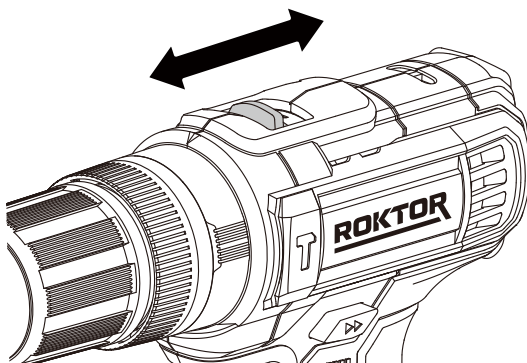

Figure 9
5. TWO-SPEED GEAR CONTROL (SEE FIG. 9)